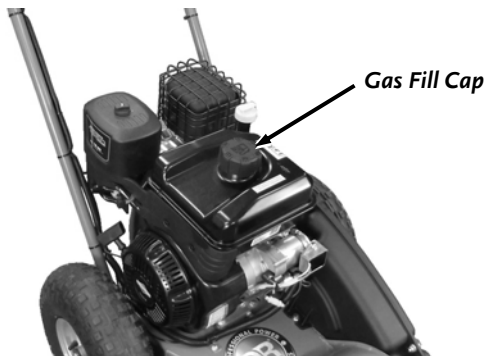

Figure 7
- Remove the Gas Fill Cap and fill the Gas Tank with fresh, unleaded gas (with a minimum of 85 Octane) to approximately 1" to 1-1/2" below the top of the fill neck to allow for fuel expansion (**Figure 7**). Be careful not to overfill and reinstall the Gas Fill Cap before starting the engine. See your Engine Owner's Manual for more detailed information.